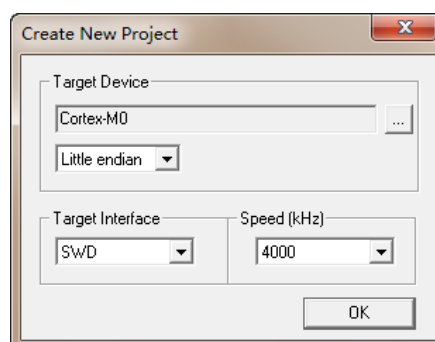
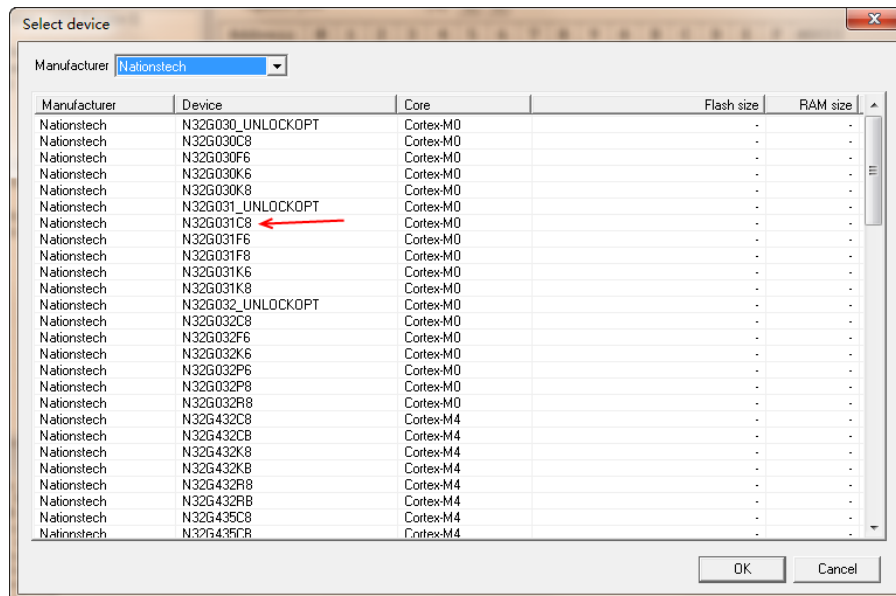

Figure 4-2. Create New Project Window
Figure 4-3. Select Device Window
2. The new project window popped up, as shown in Figure 4-2. Click "... " in this window, the Target Device selection list window is displayed as shown in Figure 4-3. Select N32G031C8 in the Select Device window and then click "OK".